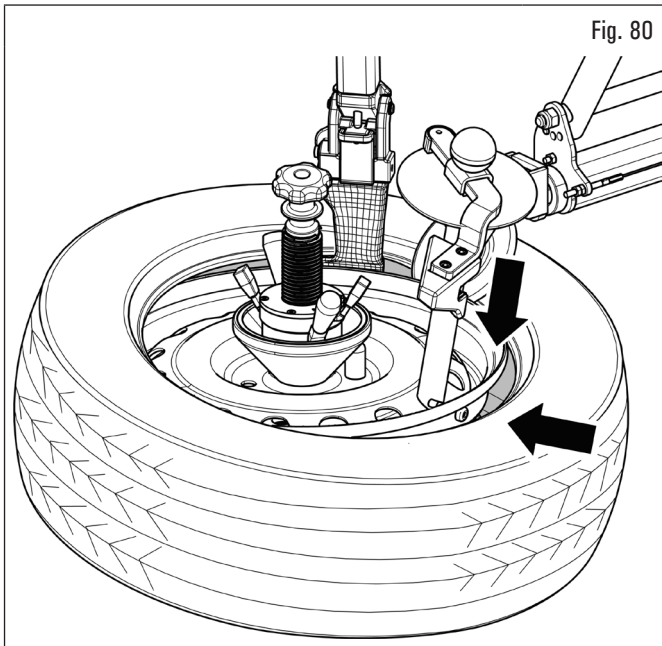
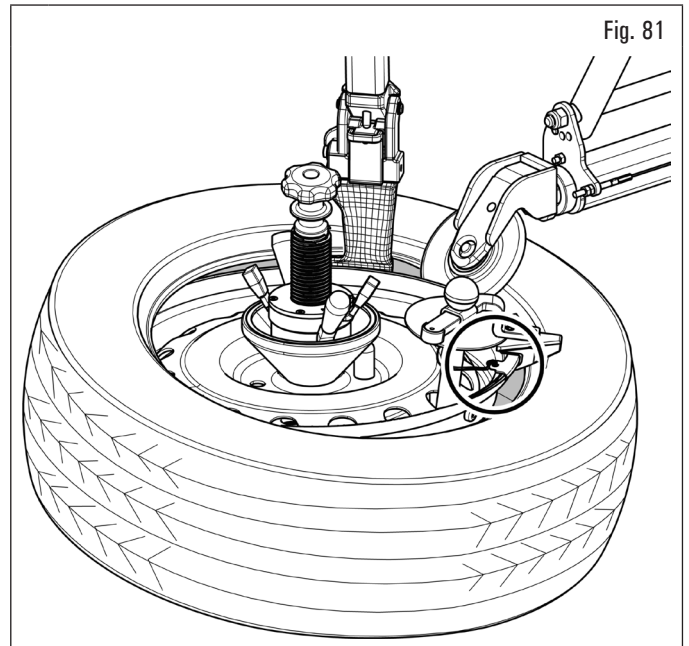

Fig. 80
Fig. 81
6. insert the bead pusher with puller exactly in correspondence with the valve (see Fig. 80). Fit the bead protector on the edge of the rim in correspondence with the puller (optional), as shown in Fig. 81;